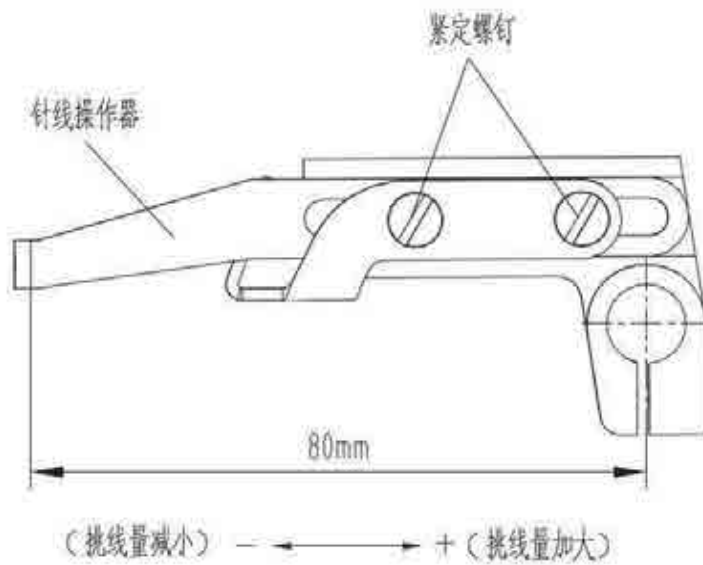

Figure8-2
2、松开紧定螺钉，左右移动针线操作器，如图 2 所示，把针线操作器边缘到摆动挑线杆轴的中心调整至 80mm，然后拧紧紧定螺钉，针对不同布料时可通过调节针线操作器边缘到摆动挑线杆轴的中心距离来调节挑线量，针线操作器边缘到摆动挑线杆轴的中心距离加大，挑线量减小，针线操作器边缘到摆动挑线杆轴的中心距离减小，挑线量加大（图 8-2）。
2、Release set screw, shuffling the needle thread operator, showed by figure 8-2, change the distance between margin of needle thread operator and center of shuffling release pole rod to 80mm, then tight the set screw. For various type of fabric, we can adjust the thread taking up length by change this distance. The distance between margin of needle thread operator and center of shuffling release pole rod increase, the thread taking up length decrease. Also, the distance decrease, the thread taking up length increase.